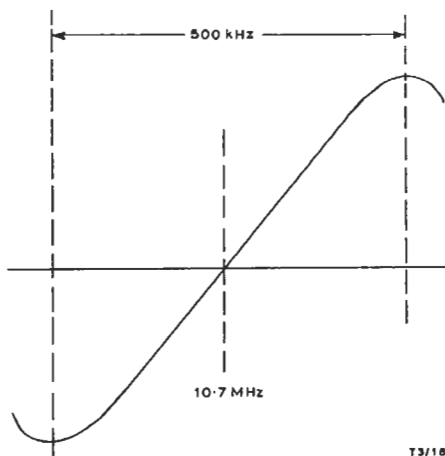

Fig. 4.6. Discriminator Response Curve
6. Set the Polyskop output attenuators to 20 dB. Then adjust C4 and C9 to obtain the familiar S-characteristic as shown in Fig. 4.6.